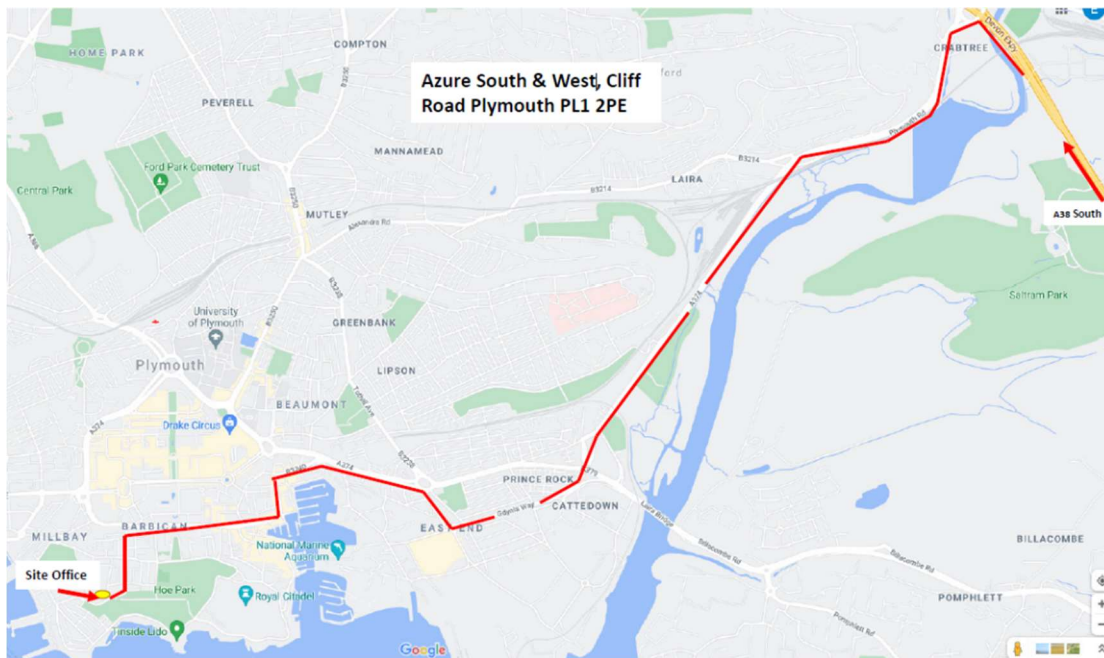

Figure 1 – Proposed vehicle route
2.1.1. The route map, Figure 1 below, shows the proposed route that all site vehicles will be directed along to gain access to/from site from the A38 utilising the A374, Gydinia Way and the B3240. This will reduce site traffic from entering the centre of Plymouth, all construction traffic will be informed to arrive/exit using this route.
3.1.1. Access to/from the site to be as Figure 1. All exiting delivery vehicles are to exit right from the site onto Cliff Road, Elliot street and then re-join route as Figure 1.